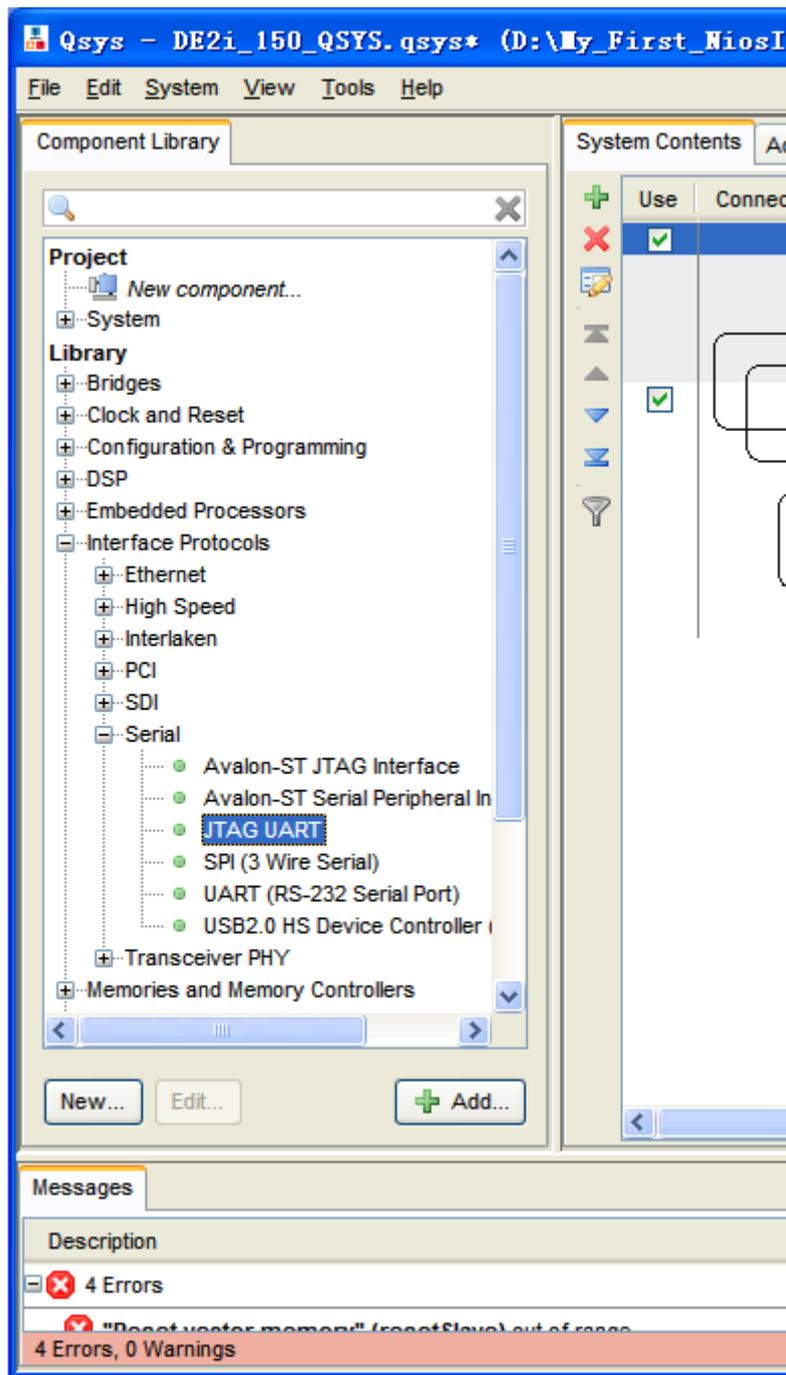
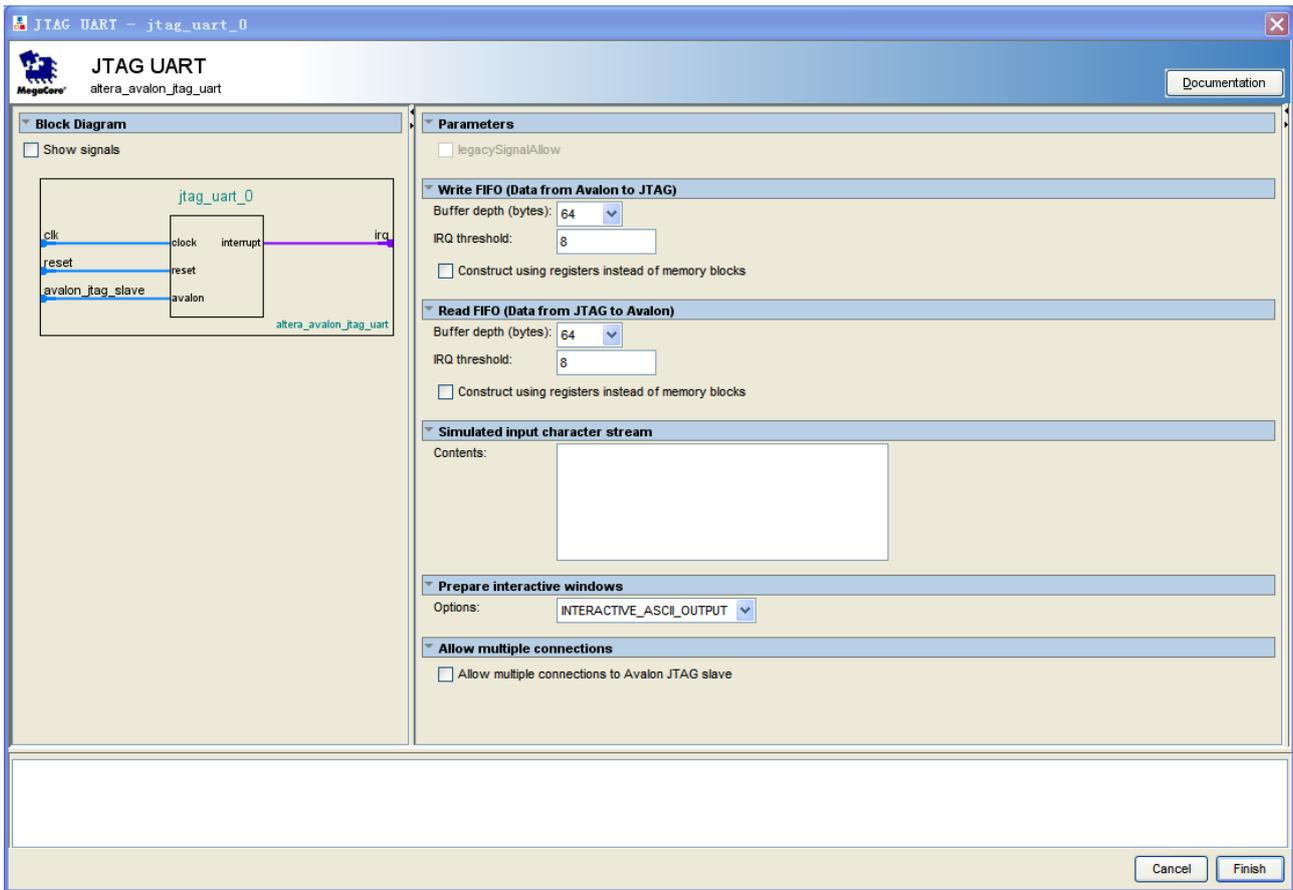

Figure 1-21 Add JTAG UART (1)
Figure 1-22 JTAG UART (2)
12. Choose **Library > Interface Protocols > Serial > JTAG UART** to open wizard of adding **JTAG UART**. See Figure 1-21 and Figure 1-22.